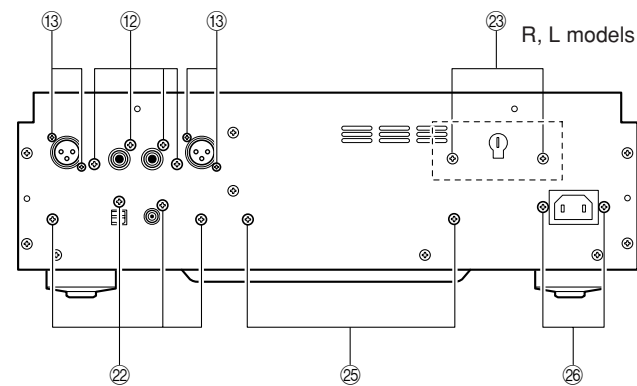

Fig. 5
- b. Remove 4 screws (⑫) and 4 screws (⑬). (Fig. 5)
- b. ⑫のネジ4本、⑬のネジ4本を外します。(Fig. 5)
- b. Remove 4 screws (22). (Fig. 5)
- a. Remove 2 screws (23). (Fig. 5)
- b. Remove 2 screws (25) and 2 screws (26). (Fig. 5)